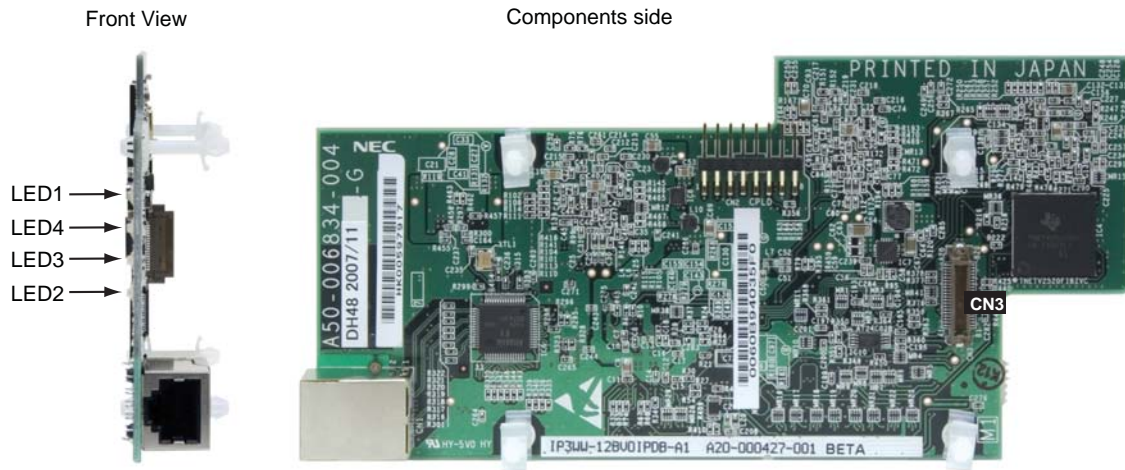

Figure 2-16: VOIPDB DAUGHTER BOARD
2.4.5 VoIP (VOIPDB) Daughter Board (Figure 2-16 - Figure 2-16) - P/N 0911030, 0911032, 0911034